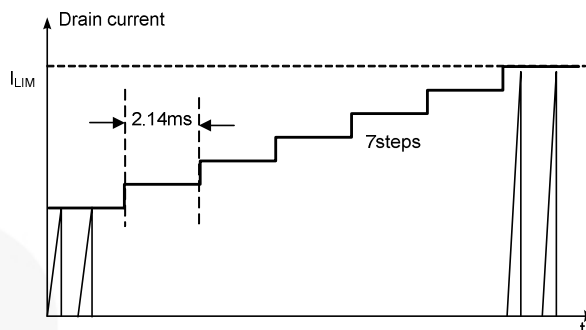

Figure 20. Internal Soft-Start
5. Soft-Start: The FPS has an internal soft-start circuit that slowly increases the feedback voltage with the SenseFET current right after it starts up. The typical soft-start time is 15ms, as shown in Figure 20, where progressive increment of the SenseFET current is allowed during the start-up phase. The soft-start circuit progressively increases current limits to establish proper working conditions for transformers, inductors, capacitors, and switching devices. It also helps to prevent transformer saturation and reduces the stress on the secondary diode.